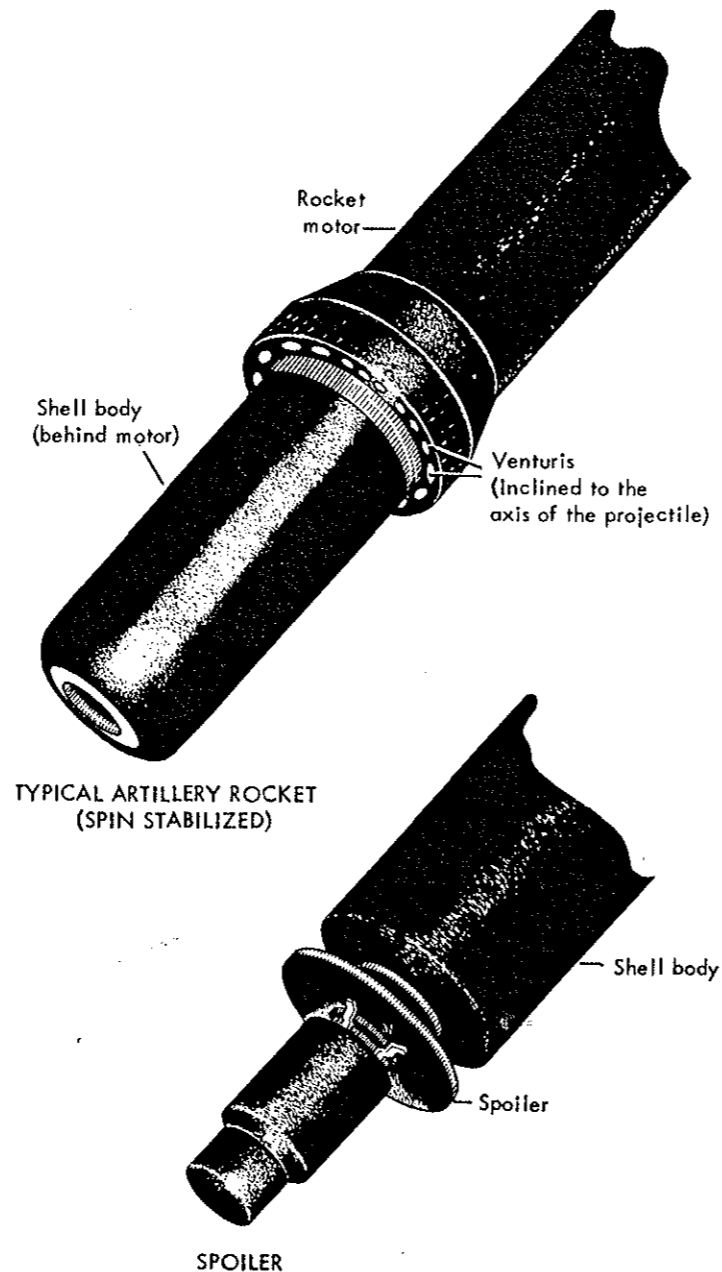

Figure 68.
components—(1) the shell, which contains HE or some other filling, together with a fuze (fig. 67); and (2) the motor, consisting mainly of the solid fuel or other propellant, and the venturi or venturis¹ (fig. 68).
a. Spin stabilization, effected by multiple small venturis around the circumference of the base of the motor (fig. 68). These venturis are inclined at an angle to the axis so that the issuing gases impart rotation to the rocket.
c. A rocket, in which the shell is behind the motor instead of in front of it (fig. 68).
- Does it have spoilers? Spoilers are devices fitted to a projectile to be fired at less than the normal minimum range (fig. 68). They reduce range without lowering the angle of projection. Give a description of any which may be used.